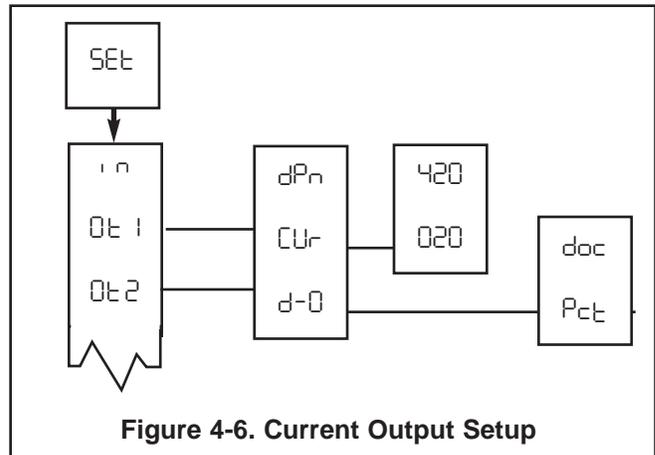

Figure 4-6. Current Output Setup
4.8 CURRENT OUTPUT. Select Oe 1 to configure the current output for free residual chlorine. Select Oe 2 to configure the output for pH. Note that Oe 2 is available only if the pH board has been installed. See Figure 4-6.
B. mA Output Range. Select Cur to set the output signal to 0-20 mA (020) or to 4-20 mA (420).
4.8.1 Output Setup (Oe 1/Oe 2). Refer to Figure 4-6.